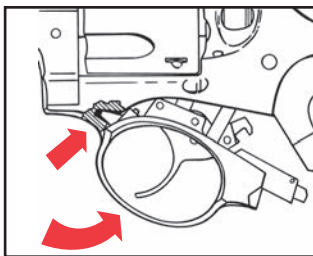
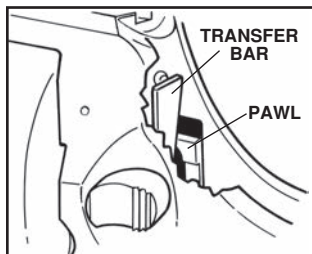

Figure 13
Figure 15
6. Use a screwdriver of appropriate size and insert it through the hole in the frame to depress the trigger guard lock plunger located inside the frame at the rear of trigger guard. Simultaneously pull down and remove trigger guard assembly (see Figures 13 & 14). It may be necessary to slightly depress the trigger while removing the trigger guard assembly.
2. Hook front of trigger guard into recess in frame (see Figure 13, above). Align pawl in its recess in the frame and be sure transfer bar is in correct position in frame then allow latch to re-engage. If solid resistance is felt when swinging trigger guard into frame, or if trigger guard will not lock into position re-check position of pawl and transfer bar (see Figure 15).